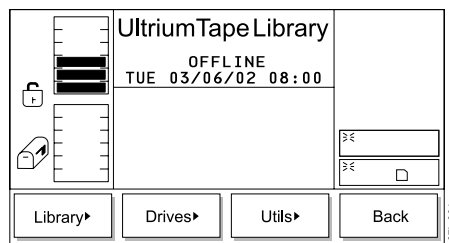

Figure 359. Setup Menu
2. Press the button below the **Setup** softkey. The Setup Menu displays (see Figure 359).